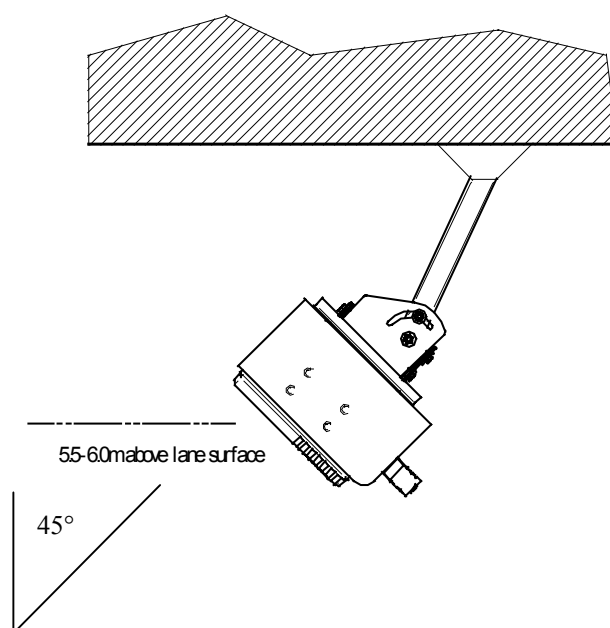

Figure 2.3.1 Side view of MR mounted hanging from concrete superstructure
The normal mounting height is 5.5 to 6m above the road, and the normal mounting angle is 45° down from vertical (fig.2.3.1). Optimum performance is obtained when the MultiReader (MR) is mounted above the middle of the lane.